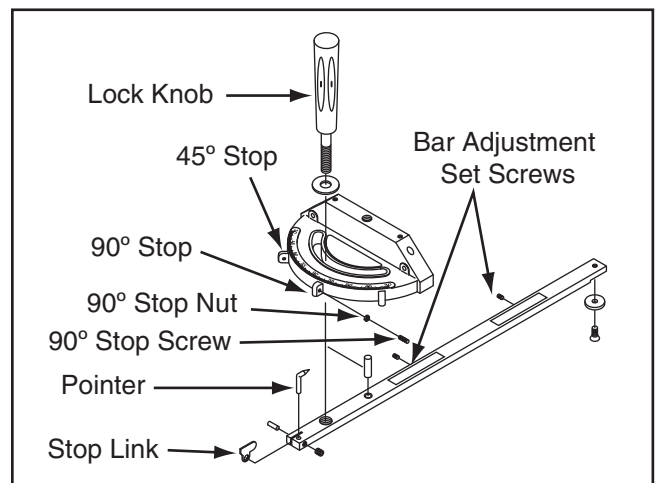

Figure 129. Miter gauge features.
The miter gauge (see **Figure 129**) is equipped with stop screws that allow you to easily adjust the miter gauge from 45° to the left, 90°, and 45° to the right. The stop screws contact a stop link, which moves in or out of the way for adjustments. Also, a pair of set screws can be adjusted so the miter bar is snug in the T-slot.
3. Loosen miter gauge lock knob, raise stop link (see **Figure 129**) all the way up.